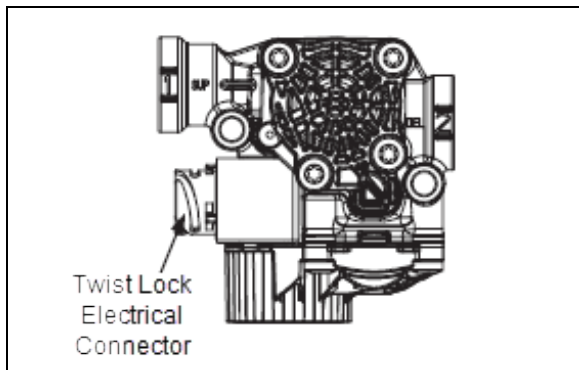

FIGURE 44: M-40QR PRESSURE MODULATOR VALVE
**NTA-Type Plastic Tubing:** Hand tighten nut (Figure 44). From that point, tighten using a wrench the number of turns indicated in the following chart.